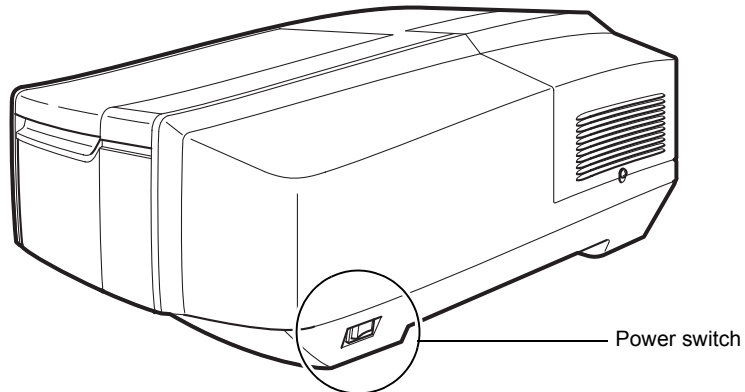

Fig.2-14 Power Switch for UV-2600/2700
- 1 Press "I" on the power switch (Fig.2-14) to turn on the power. The LED on the front of the spectrophotometer lights in red, and then it flashes in green. The LED flashes in green during initialization and lights in green after initialization.
- 3 Press "O" on the power switch (Fig.2-14) to turn off the power.